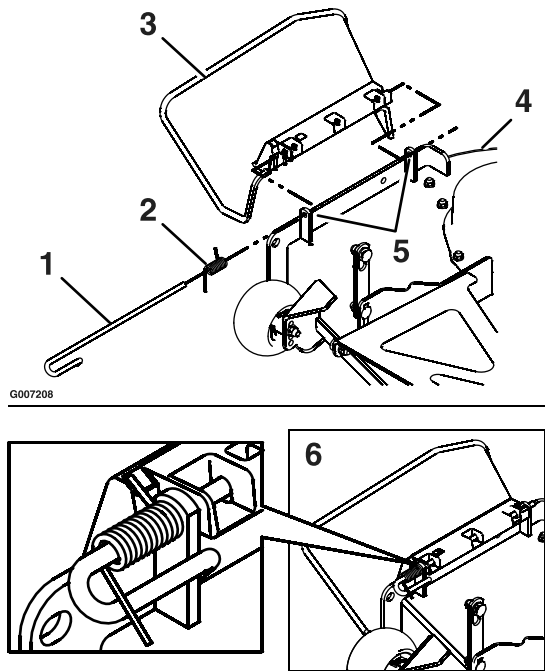

Figure 6
1. Install discharge deflector (Figure 6).
2. Orient the spring so that the short leg points towards the discharge deflector and the longer leg points towards the deck as shown in (Figure 6). Place spring on rod and slide rod, straight end, through the front discharge deflector bracket, discharge deflector, and rear deflector bracket.
3. Make sure that the spring and rod are installed so that the rod is retained from sliding out by the front bracket and the spring holds the discharge deflector in the down position. Refer to (Figure 6) for proper orientation.